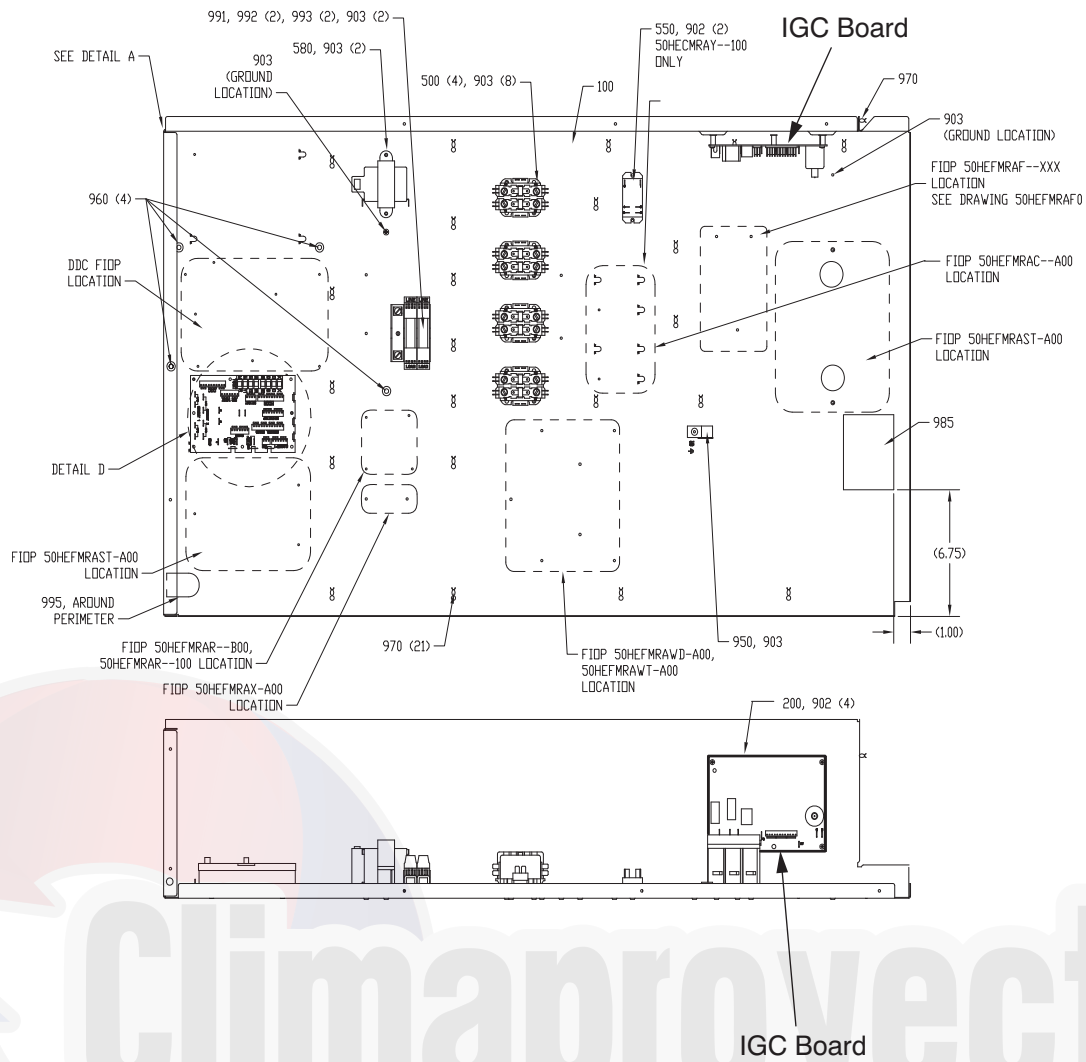
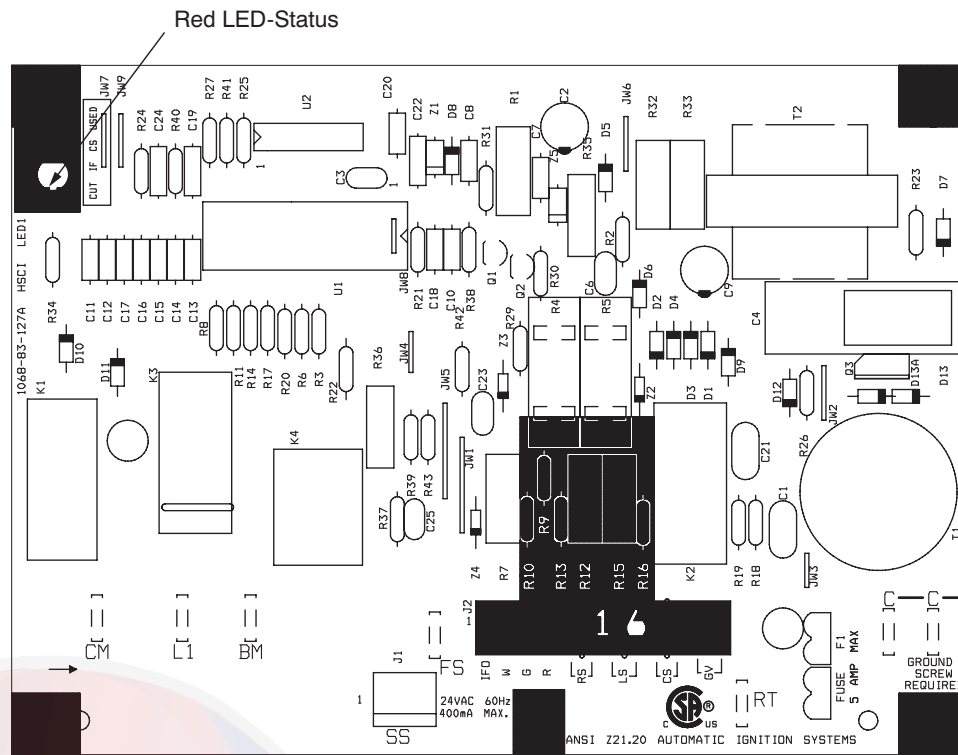

Fig. 57 - Unit Control Box/IGC Location
Fig. 61 - Integrated Gas Control (IGC) Board
6. Remove igniter wires and sensor wires at the Integrated Gas Unit Controller (IGC). See Fig. 57.
Unit is equipped with a direct spark ignition 100% lockout system. Integrated Gas Unit Controller (IGC) is located in the control box. See Fig. 57. The IGC contains a self-diagnostic LED (light-emitting diode). A single LED (see Fig. 61) on the IGC provides a visual display of operational or sequential problems when the power supply is uninterrupted. When a break in power occurs, the IGC will be reset, resulting in a loss of fault history, and the indoor evaporator fan ON/OFF times will be reset. The LED error code can be observed through the viewport. During servicing refer to the label on the control box cover or Table 11 for an explanation of LED error code descriptions.